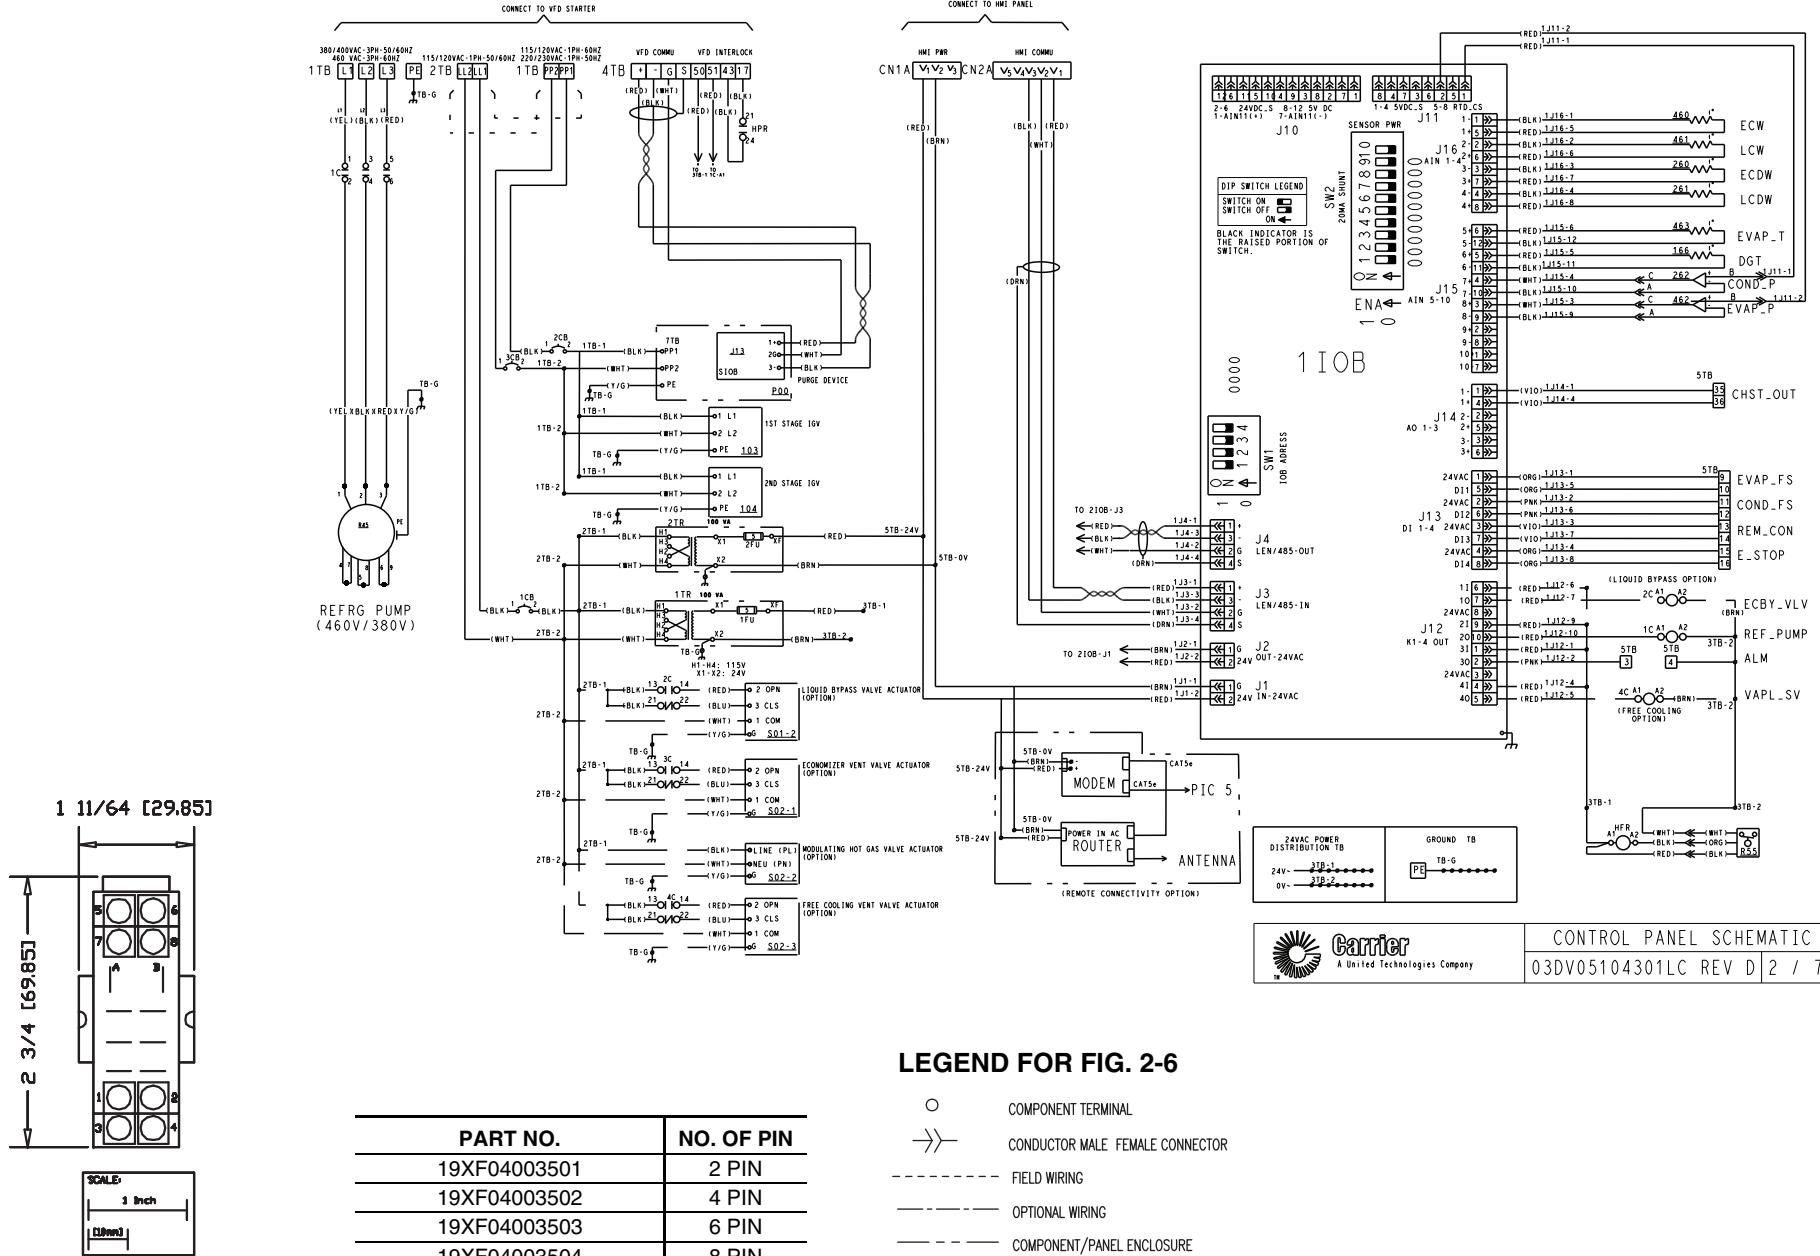

Fig. 2 — IOB 1
1. See Fig. 2 for IOB1 wiring diagram.
2. For pressure readings, only Vout (output) terminal is indicated. See Fig. 2 for Vin (+) and ground (-).